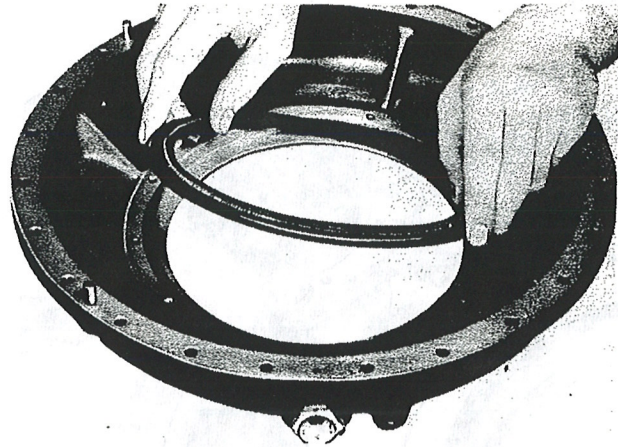

Figure 146—Installing Cover Seal
(10) Install the cover seal spring in the regulator cover seal, then install the cover seal in the regulator cover with the metal side facing the cover. (See figure 146.)